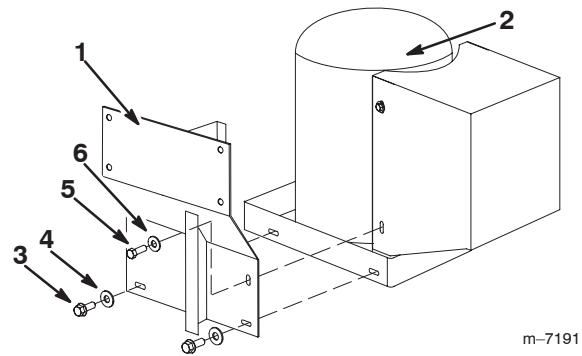

Figure 3
8. Mount the Workman adapter bracket supplied in the kit to the tank/compressor assembly using 2 bolts (3/8 x 1 inch), 2 flat washers (3/8 inch) as shown figure 3.
9. Install the remaining bolt (1/4 x 1 inch) and flat washer (1/4 inch) through the Workman adapter bracket and cover into the tank/compressor assembly (Fig. 3).